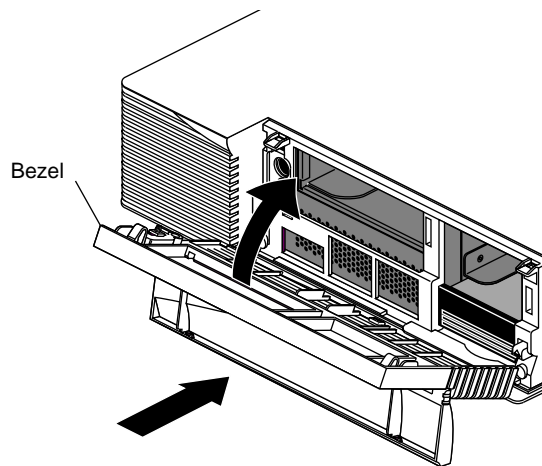

Figure 1-11 Replacing the Bezel
- Place the tabs on the bottom of the bezel in the grooves in the front of the chassis, as shown in Figure 1-11.